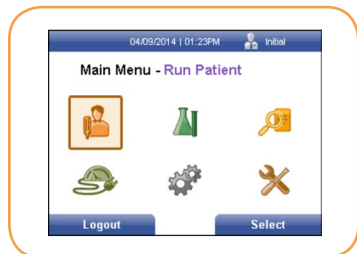

FIGURE 36
2. Enter the desired password, then press the right soft key to select Login. The Main Menu will be displayed (Figure 36).